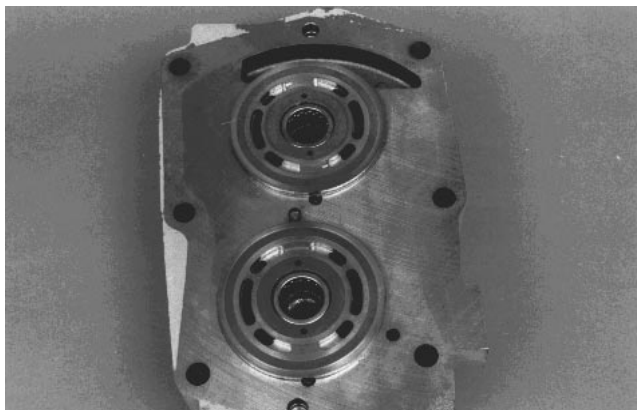

Figure 72
18. Coat back (steel side) of valve plates with petroleum jelly to hold them in position and install valve plates onto center section, with their bronze faces visible (Fig. 72). The notch on each valve plate must engage its locating pin.